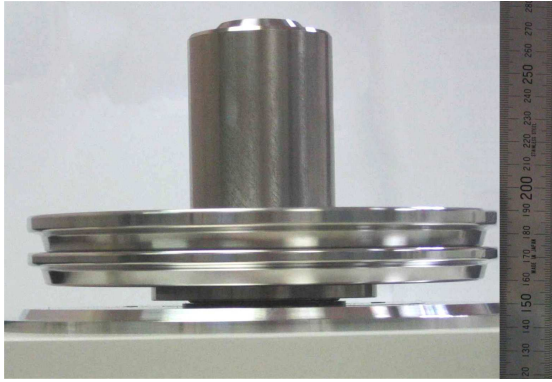

Figure 2. Measuring the fall rate of a gas-operated deadweight tester.
5. Position a ruler near the edge of the weights so that you can measure their height, see Figure 2. Measure from the top edge of the mass stack to avoid confusion when re-measuring the height.